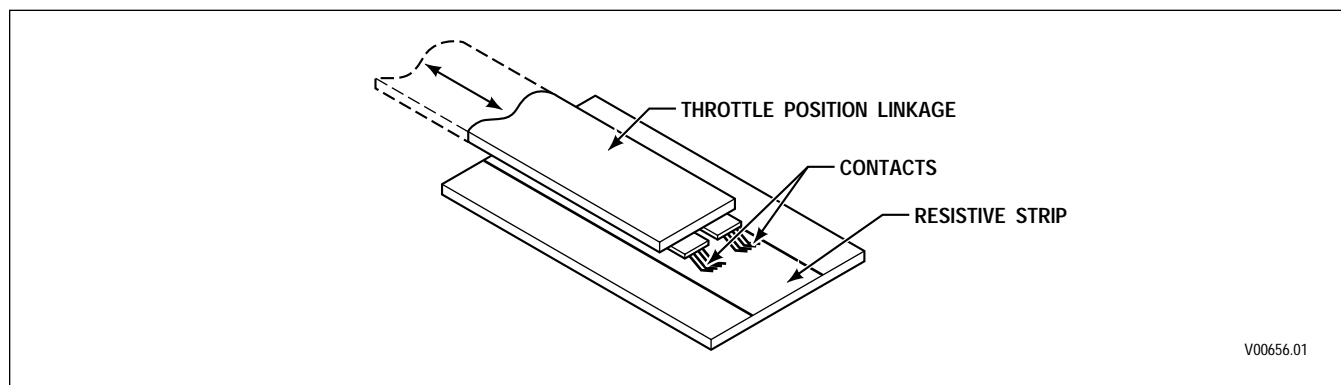

Figure F-1. Throttle Position to Voltage Conversion
A. Description of Operation (Figure F-1)